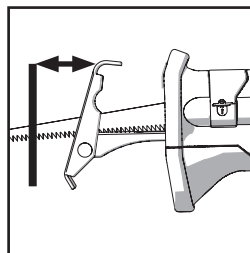

Fig. 3
- Loosen the two socket headed screws (**Fig. 3**)